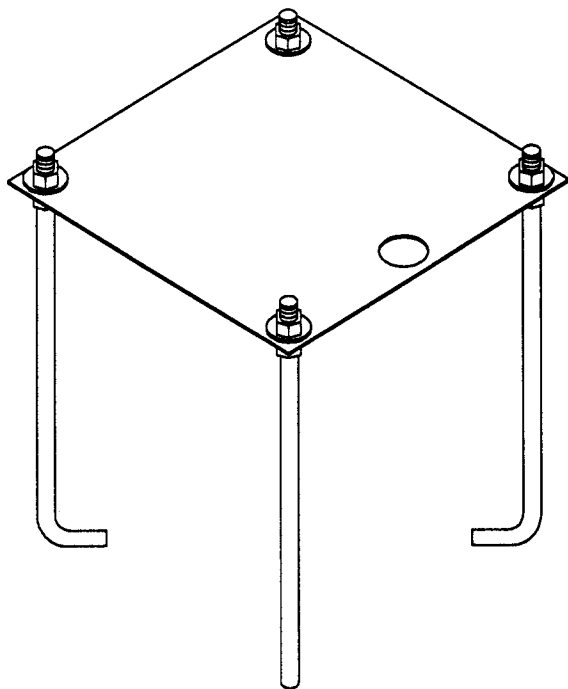

FIGURE 1.3-3. Template and Anchor Bolt Assembly
Step 3 - Three cubic feet of cement are required to fill a 18" x 18" x 16" deep hole. This amounts to approximately five (5) eighty pound (80 lb.) sacks of sakrete. Mix the cement. Stuff a rag into one end of the conduit elbow to prevent cement from clogging the conduit. While holding the conduit in place, pour the cement. Examine the template to judge where to position the top of the conduit. About 1.5 inches of conduit should be exposed above the cement surface.
Step 4 - While the cement is setting, assemble the template and anchor bolts as shown in Figure 1.3-3. Set the anchor bolts and template in the cement so the conduit is coming through the conduit hole in the template. The threaded end of the anchor bolts should extend a minimum of 1 3/4" above the top of the concrete. This allows the template to rest on the lower set of nuts about 1" above the surface of the concrete (Figure 1.3-1). Adjusting the lower set of nuts